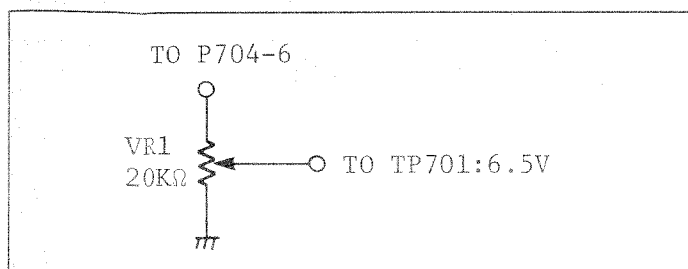

Fig. 45
4. Connect the JIG to Both points TP701 and P704-6 as shown in Fig. 45.
10. Connect the JIG to both points P704 -6 and TP701 as shown in Fig. 45.
1. Set the BAND SW to the VHF high position (VH) and turn the tuning volume so that the voltage at BT terminal of the tuner becomes 15V.
6. Connect the JIG to both points TP701 and P704-6 as shown in Fig. 45 and adjust the VR1 so that the level of it becomes 1.0 Vp-p.